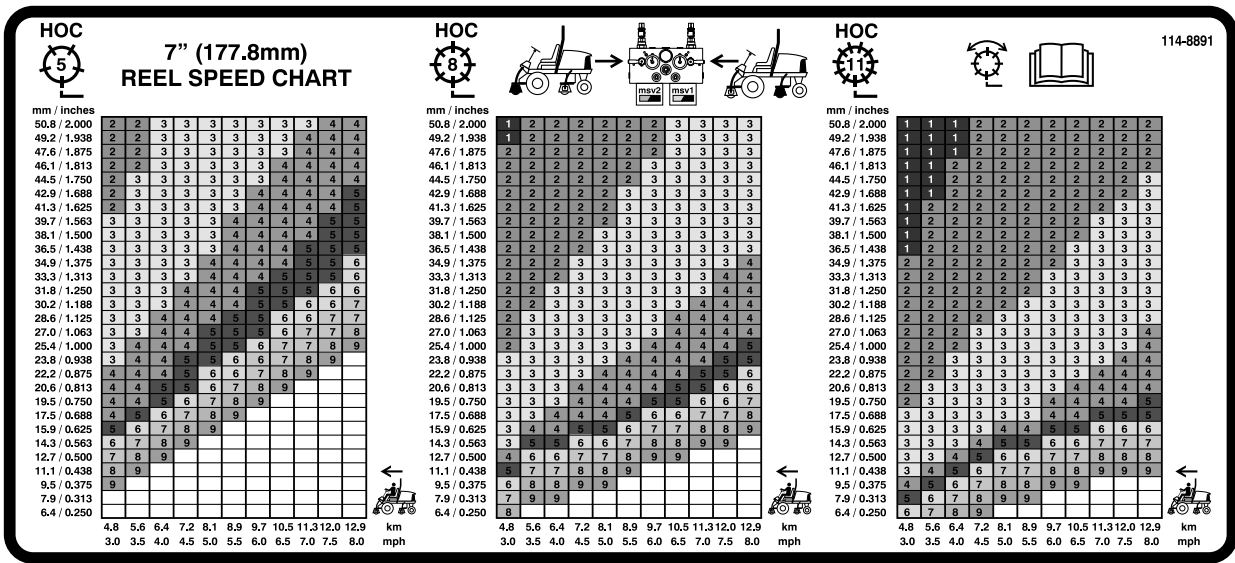
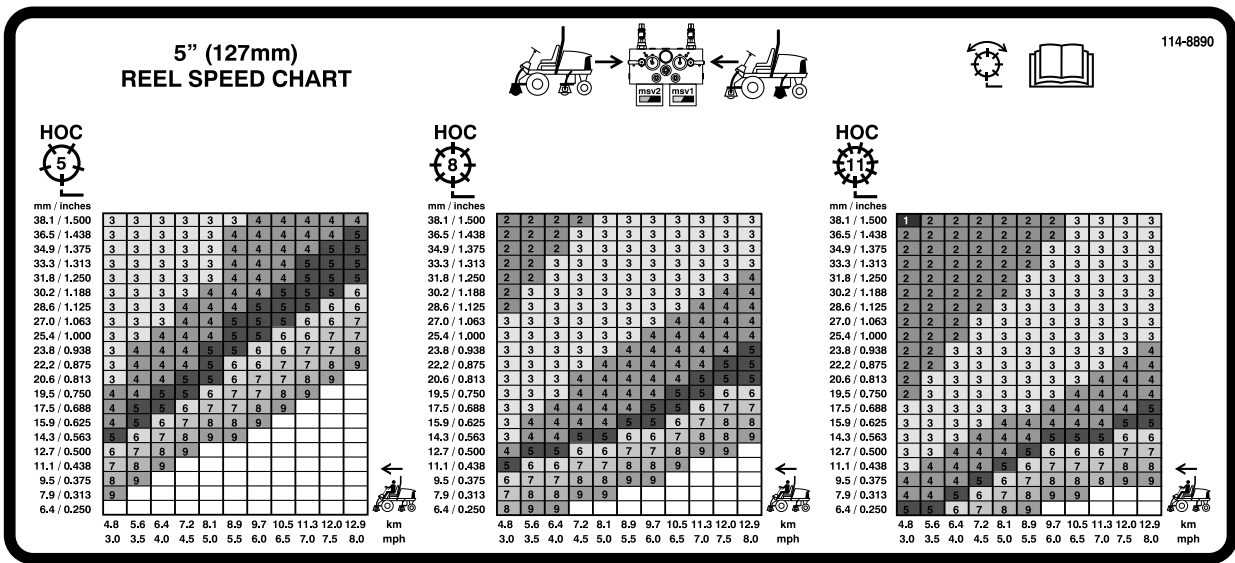

Figure 41
Figure 42
3. Using the appropriate graph on decal 110-0996 (Figure 41) for Reelmaster 5510 & 5610, 7 inch reel cutting units or decal 110-8923 (Figure 42) for Reelmaster 5410, 5 inch reel cutting units determine the proper reel speed setting.